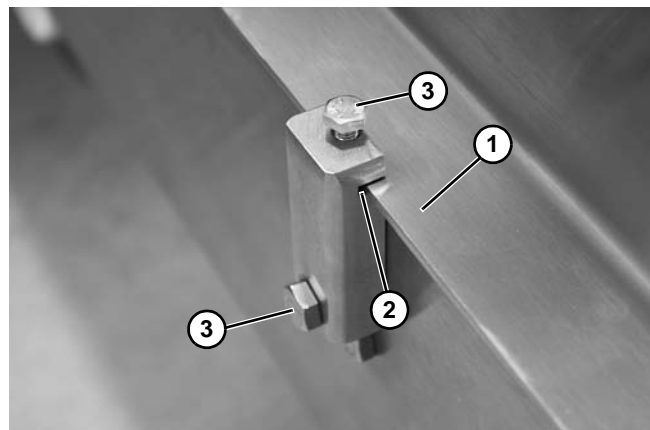

Figure 23
3. Install guide (**Figure 23, item 1**) into the slot (**Figure 23, item 2**) of the mounting block and tighten screws (**Figure 23, item 3**).